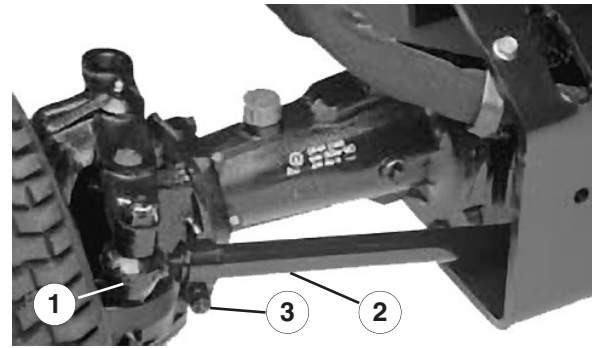

Figure 44
2. Remove the cotter pin and nut securing one tie rod ball joint to the mounting bracket on the axle and disconnect the ball joint from the axle (Fig. 44).
3. Loosen the screw on the tie rod clamp (Fig. 44). Rotate the ball joint in or out to adjust the length of the tie rod.